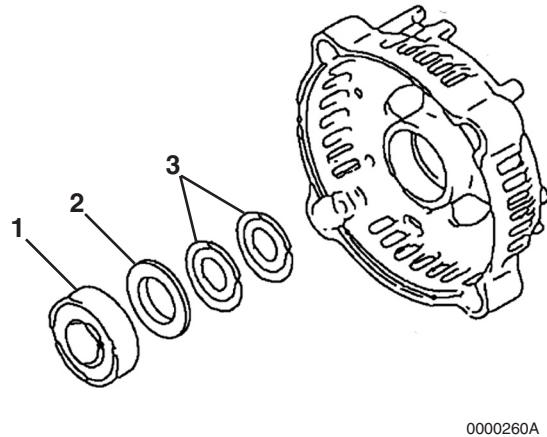

Figure 12-11
11. If it is necessary to replace the bearing (**Figure 12-11, (1)**) in the rear frame housing, use a puller to remove. Discard the bearing. Remove the bearing cover (**Figure 12-11, (2)**) and two thrust washers (**Figure 12-11, (3)**).